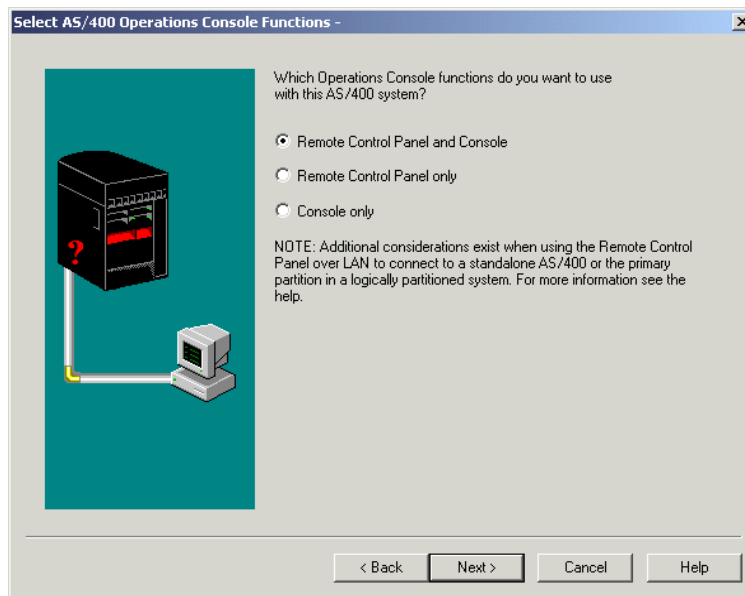

Figure 7-36 Select AS/400 Operations Console Functions display (secondary)
- Figure 7-36 shows the options that are available for Operations Console. Here you can select the console, the remote control panel, or both. In this example, we click **Remote Control Panel and Console**. Then click **Next**.